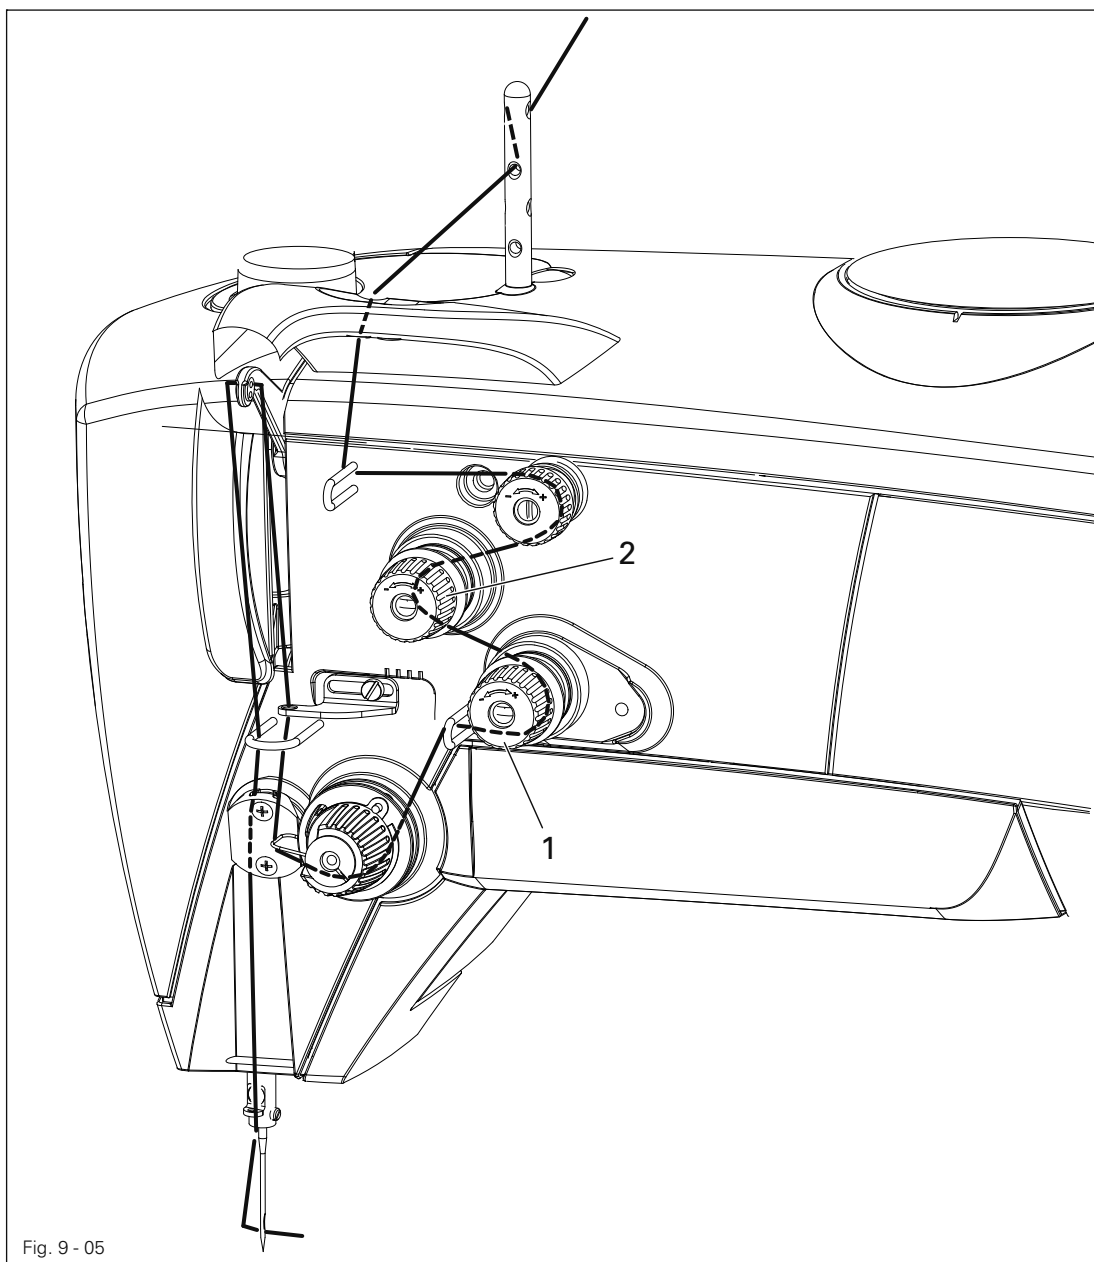

Fig. 9 - 05
- Pass the thread through the slot under the spring according to Fig. 9 - 04.
- Thread the machine as shown in Fig. 9 - 05.